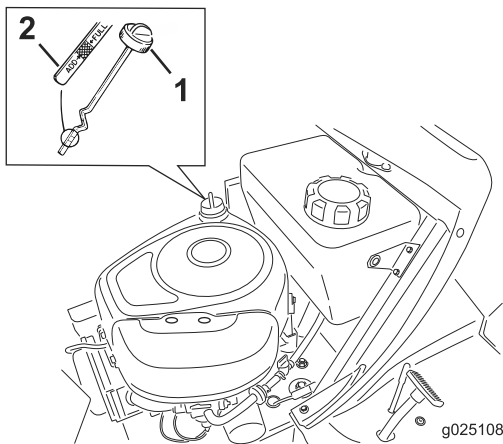

Figure 23
9. Unscrew the dipstick and wipe the metal end clean (Figure 23).
10. Screw the dipstick fully onto the filler tube (Figure 23).
11. Clean around the dipstick and unscrew the cap (Figure 23).
12. Slowly pour approximately 80% of the engine oil into the filler tube (Figure 23).